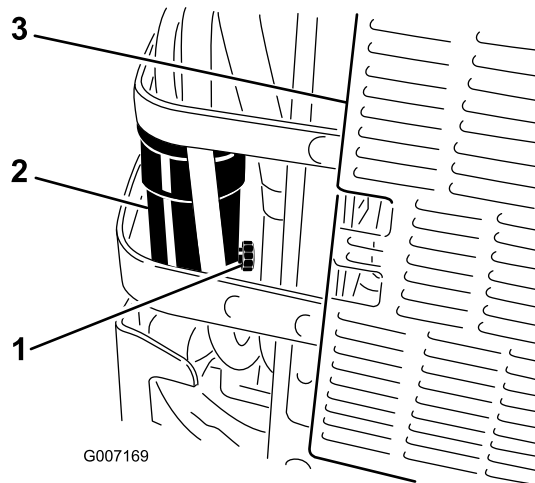

Figure 51
6. Open the drain valve on the water separator approximately 1 turn to allow water and other contaminants to drain (Figure 51).
7. Close the drain valve when only diesel fuel comes out (Figure 51).